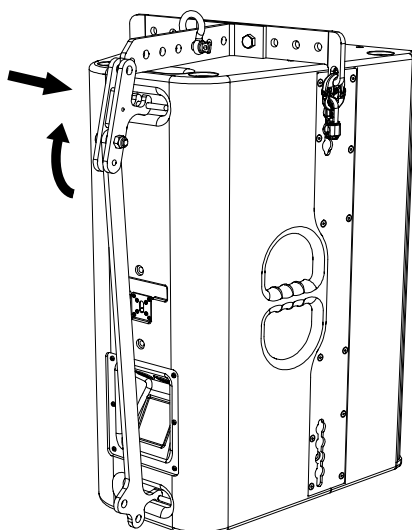

Figure 3.10.2 - Hook the BBT24 bracket in the upper handle
Fold the upper part of the BBT24 bracket forward and hook it with the hook in the upper handle of the T24(N) speaker as shown in figure 3.10.2.